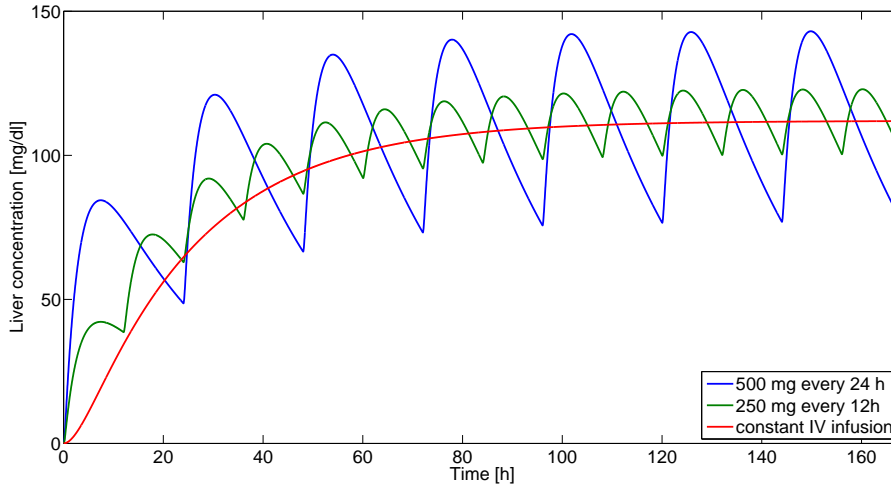

Figure 5.2 Liver concentration at different medication strategies
- d. Simulating the system with this oral prescription every 24 hours produces the blue curve in Fig. 5.2 below. The output oscillates heavily with a 24 hour period. An alternative medication strategy to reduce the oscillations and to keep the concentration more even could be to administer the drug in half the dose every 12 hours instead (green curve).
Finally, an intravenous would eliminate the oscillations altogether (red curve) in Fig 5.2 below.